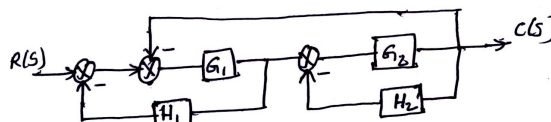

Fig.Q5(a)
- 5 a. Reduce the given block diagram shown in Fig.Q5(a) and obtain the transfer function $C(s)/R(s)$.